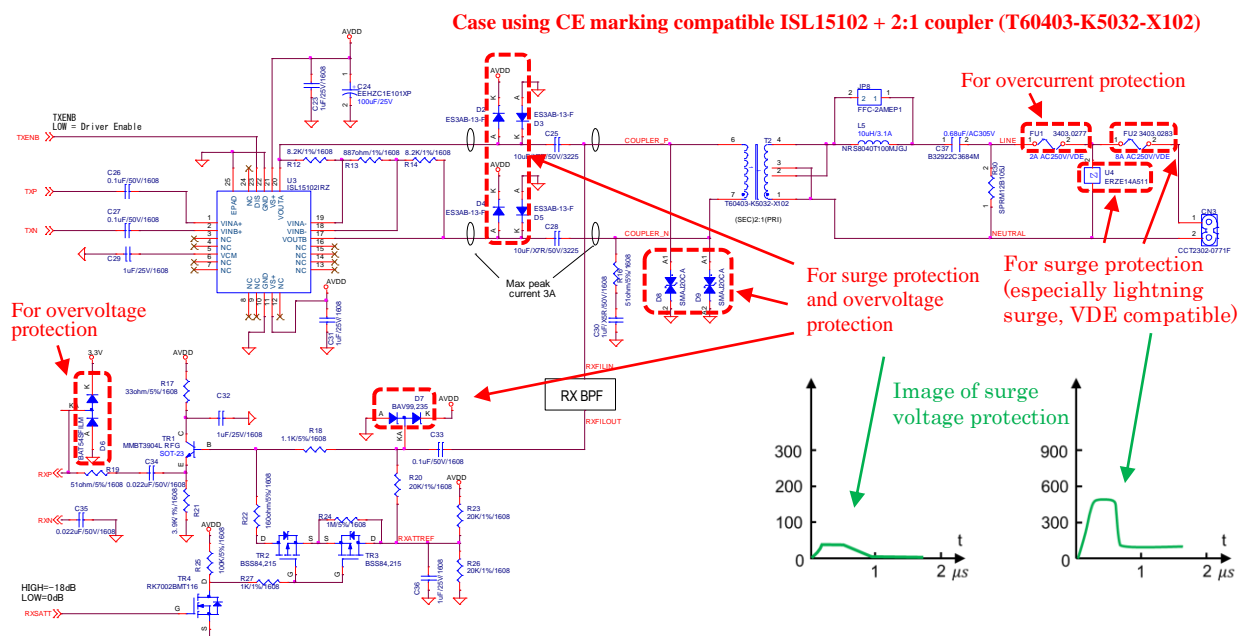

Figure 3-7 Example of connection of protection circuit used for PLC board (CE marking compatible)
- Figure 3-7 shows an example of connecting a protection circuit that supports CE marking used for a PLC board.